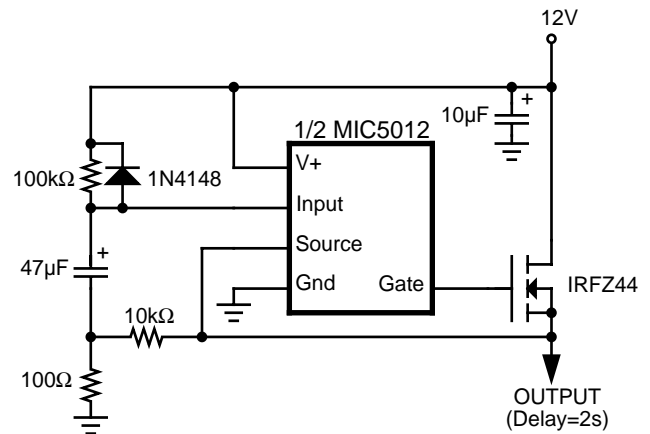

Figure 7. 30 Ampere Time-Delay Relay
**Time-Delay Relay** (Figure 7). The MIC5012 forms the basis of a simple time-delay relay. As shown, the delay commences when power is applied, but the 100kΩ/1N4148 could be independently driven from an external source such as a switch or another high-side driver to give a delay relative to some other event in the system. Hysteresis has been added to guarantee clean switching at turn-on.